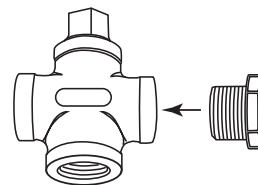

Fig. 4 Threading bushing into cross fitting next to plug
3. Thread the 1/4" to 1/2" NPT bushing into one of the ports next to the plug from Step 2 in the cross fitting. This will be opposite of where the tank will be positioned. See fig. 4. Tighten until wrench tight.